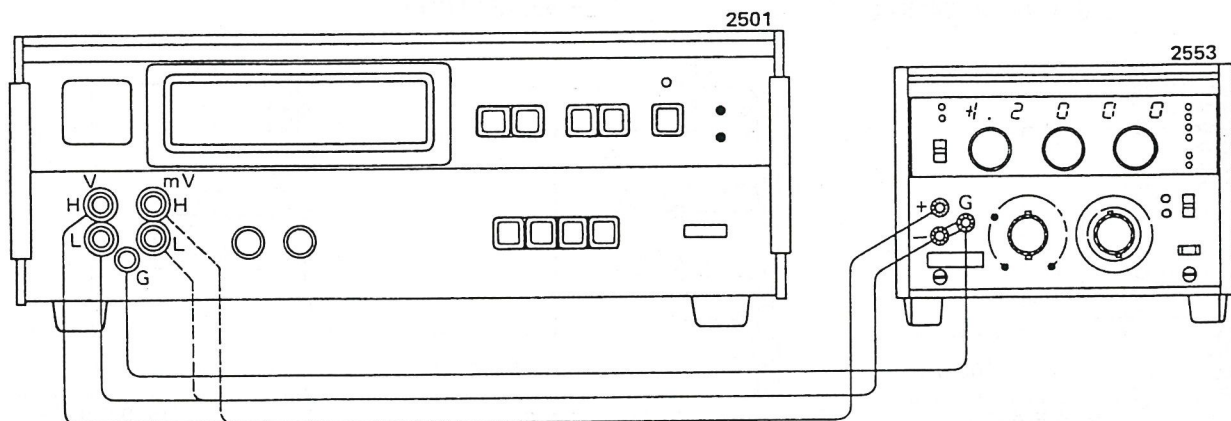

Figure 2-2. Setup for Voltage Output Accuracy Inspection.
- a) Connect this instrument and Type 2501 as shown in Figure 2-2, and set the range and output of this instrument to 1 V.
a) Connect this instrument and Type 2501 as shown in Figure 2-2, and set the range and output of this instrument to 10 V and 12 V, respectively.